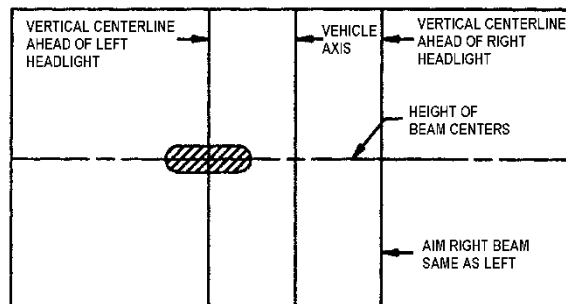

FIGURE 103: UPPER BEAM HIGH-INTENSITY ZONE PROPER LOCATION ON SCREEN
- High beam headlamps are aimed so that the center of the high-intensity zone is located at the horizontal and straight ahead vertically (Figure 103).